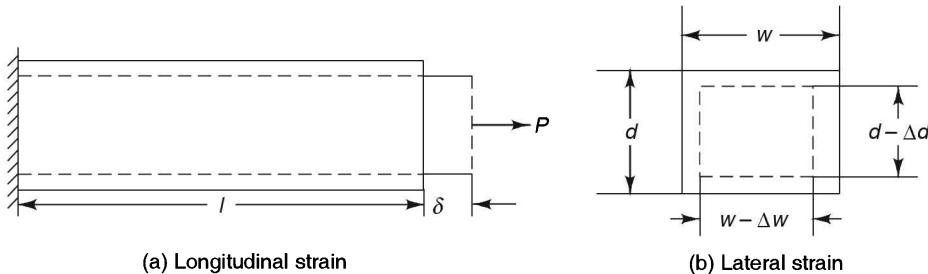

FIGURE 15.1 Strain.
A longitudinal strain is defined as change in length to the original length (Figure 15.1(a)). Strain is dimensionless.
Now refer to Figure 15.1(b) a member is subjected to axial load (P). The length of the member increases by δ . However, the width and depth decrease when the length increases. Let Δw and Δd are reduction in width (w) and depth (d). The lateral strains are